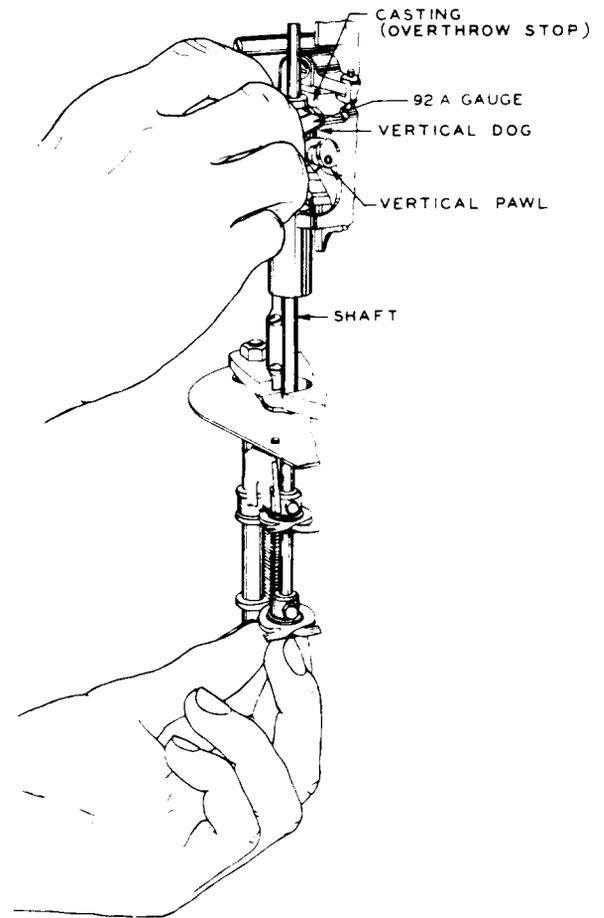

Fig. 20—Method of Checking Vertical Magnet Position
**Note:** To check this requirement, attempt to insert the gauge between the top of the vertical dog and the undersurface of the vertical tooth, as shown in Fig. 20. The gauge should not enter, or if it does enter, it should be tight.